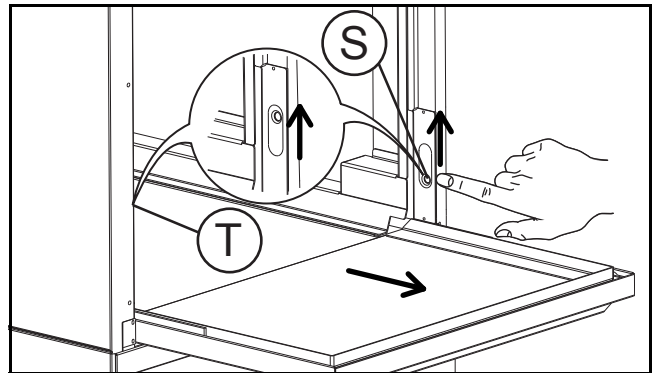

Figure 23 Release the door
- Release the door for access to the tank (Figure 23):